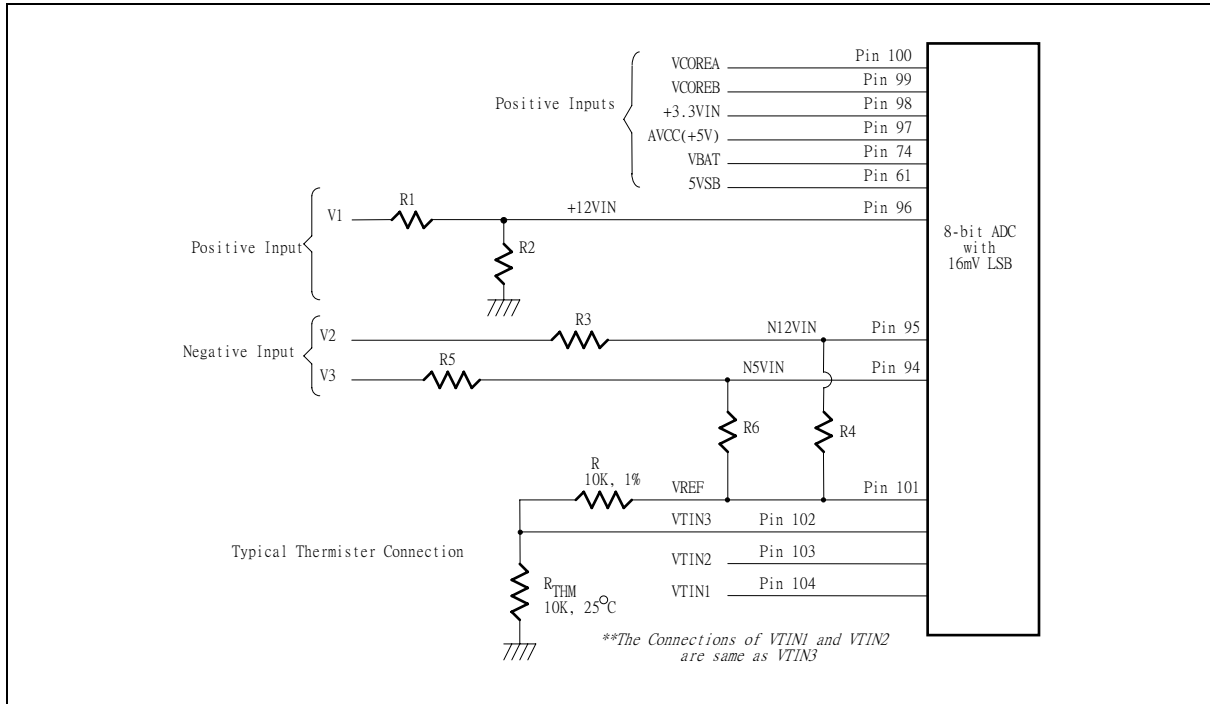

Figure. 8.2
The maximum input voltage of the analog pin is 4.096V because the 8-bit ADC has a 16mv LSB. Really, the application of the PC monitoring would most often be connected to power suppliers. The CPU V-core voltage, +3.3V, battery and 5VSB voltage can directly connected to these analog inputs. The +12V,-12V and -5V voltage inputs should be reduced a factor with external resistors so as to obtain the input range. As Figure 8.2 shows.
The negative voltage should be connected two series resistors and a positive voltage VREF (is equal to 3.6V) . In the Figure 8.2, the voltage V2 and V3 are two negative voltage which they are -12V and -5V respectively. The voltage V2 is connected to two serial resistors then is connected to another terminal VREF which is positive voltage. So as that the voltage node N12VIN can be obtain a posedge voltage if the scales of the two serial resirtors are carefully selected. It is recomanded from Winbond that the scale of two serial resistors are R3=232K ohm and R4=56K ohm. The input voltage of node N12VIN can be calculated by following equation.
The W83627HF can connect three thermistors to measure three different environment temperature. The specification of thermistor should be considered to (1) β value is 3435K, (2) resistor value is 10K ohms at 25°C. In the Figure 8.2, the thermistor is connected by a serial resistor with 10K Ohms, then connect to VREF (Pin 101) .